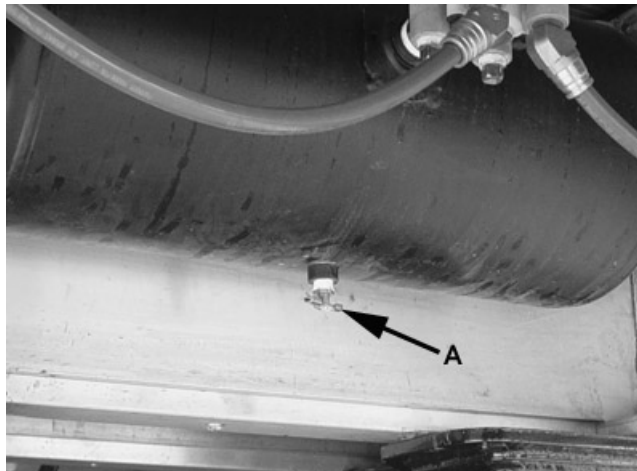

Figure 8-11 Drain Trailer Air Tanks
Drain moisture from trailer air tanks by opening petcock (A) on the bottom of each air tank. See figure 8-11. Close petcocks after draining.